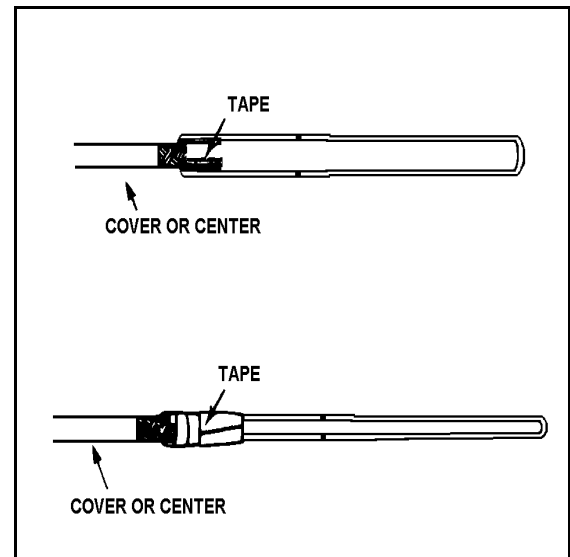

Figure 12-49. Pusher
- **Pusher.** Ice-pick-like tool used to extract core from cover and to aid in sliding fid through rope elements (see Figure 12-49, page 12-43).